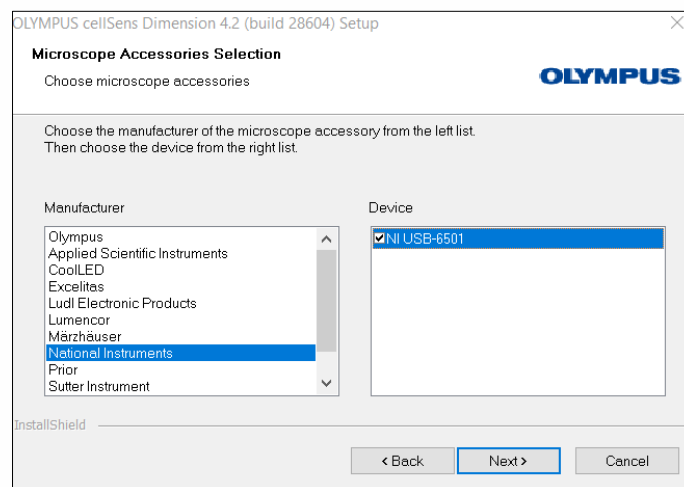

Figure 3: NI devices listed in 'Microscope Accessories Selection'
2. In the 'Microscope Accessories Selection' window (Figure 3), scroll down the 'Manufacturer' list and select 'National Instruments', checking the box alongside the 'NI USB-6501'. Click 'Next>' until complete.